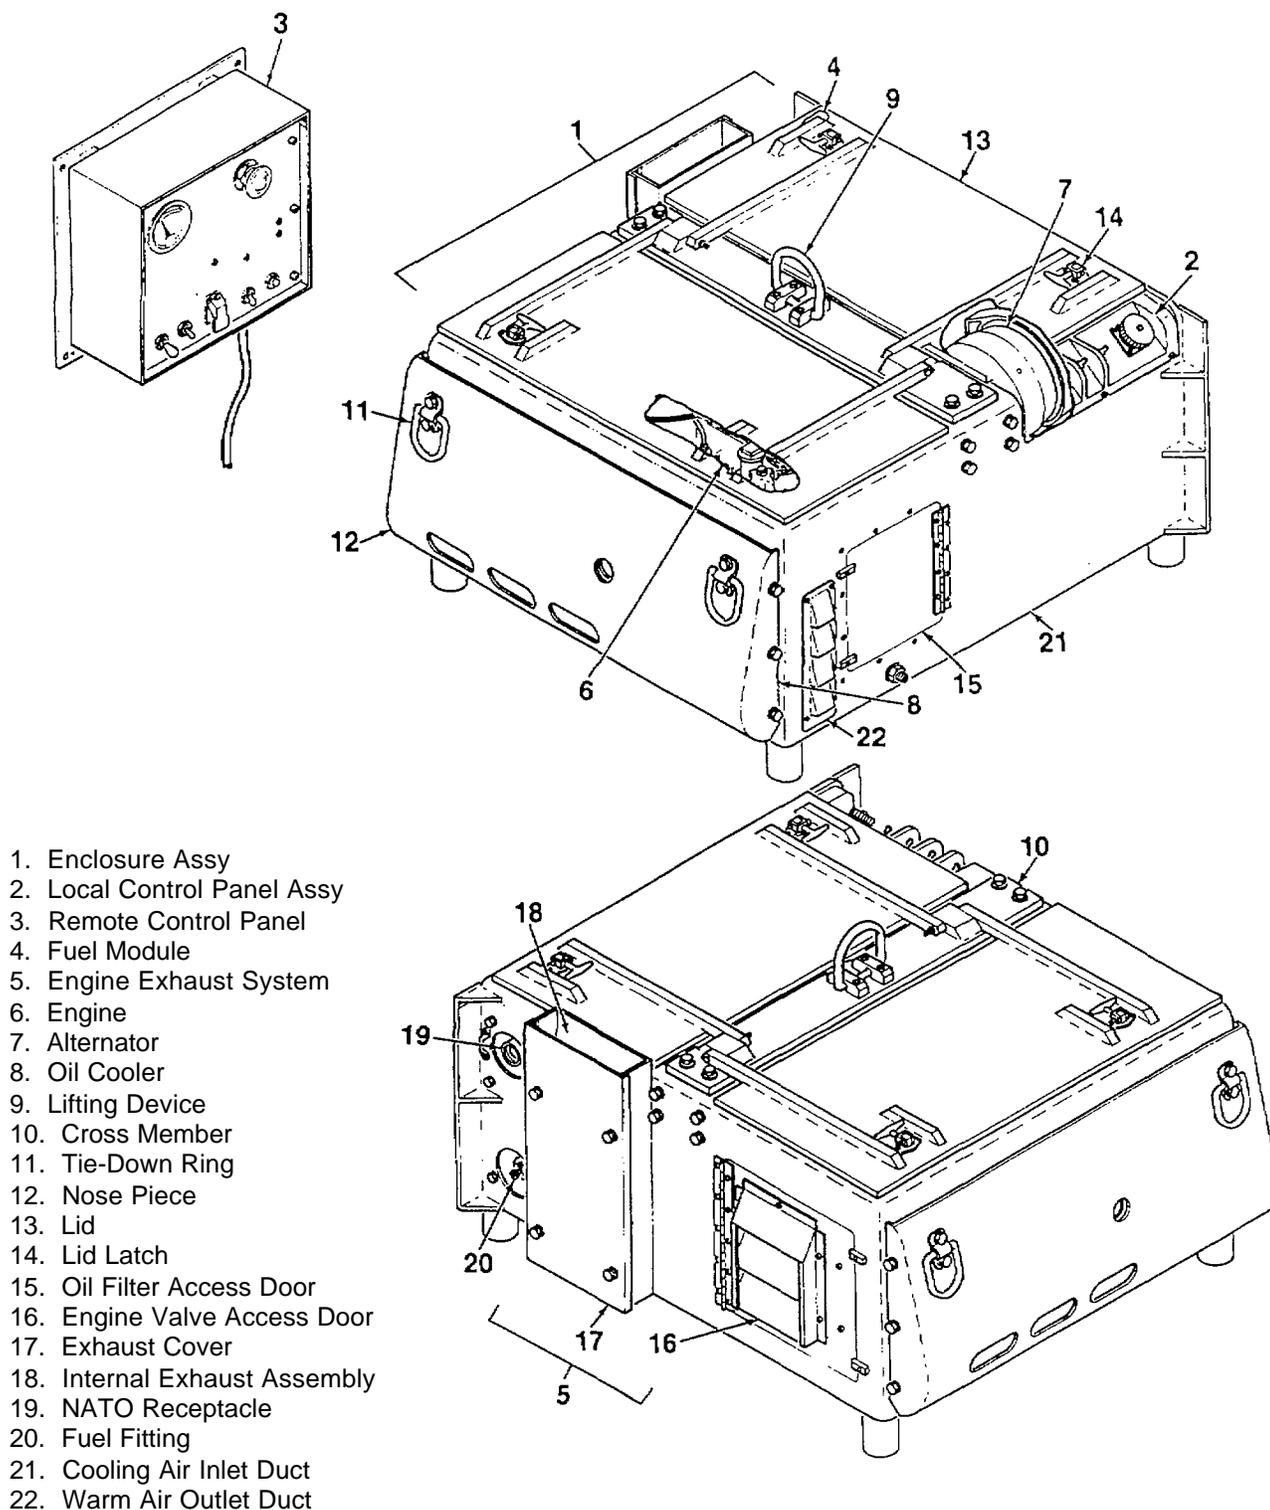
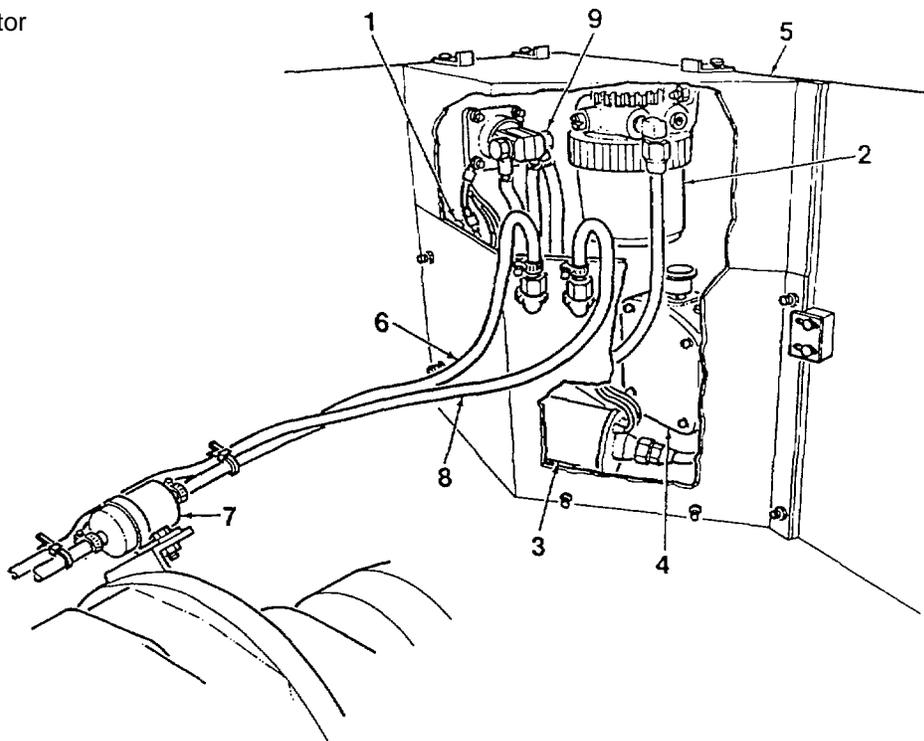

Figure 1-1. 5kW, 28VDC, Diesel Engine Driven Auxiliary Power Unit (APU)
Figure 1-2. Fuel System Components
This manual provides instructions on operation, troubleshooting, and maintenance of the 5kW, 28VDC, Diesel Engine Driven Auxiliary Power Supply (APU), MEP-952B, NSN 6115-01-452-6513. Information is provided on principles of operation, controls and indicators, preventive maintenance checks and services, lubrication, operation under both local and remote conditions, troubleshooting, and maintenance. Refer to Figure 1-1 for full view illustrations of the APU showing features pertinent to the operator.
1-10. LOCATION AND DESCRIPTION OF MAJOR COMPONENTS (FIGURE 1-1).
b. The APU consists of an aluminum enclosure assembly (1, Figure 1-1), local control panel assembly (2), remote control panel assembly (3), fuel module (4), engine exhaust and silencer system (5), single-cylinder diesel engine (6), 6 phase brushless alternator (7), engine oil cooler (8), and associated wiring harnesses, electrical connectors, and fuel hoses. Two detachable mounting brackets are secured to the front sides of the APU enclosure. Two vertical mounting brackets are welded to the rear corners of the enclosure. These brackets are used to secure the APU to the M1068 vehicle.
c. **Enclosure Assembly.** The enclosure assembly (1, Figure 1-1) supports and protects all APU components. The enclosure housing is a one-piece aluminum structure and forms the front, back, sides, and base of the enclosure assembly. A single point lifting device (9) is mounted to the top-center cross member (10). Four tie-down rings (11) are mounted on the enclosure, two on the nose piece (12) and two on the rear housing panel.
d. Two liftable lids (13) are mounted to the top of the of the enclosure assembly. Fold-down latches (14) secure the lids in place during vehicle operation. The lids allow easy access to APU components for inspection, servicing, and maintenance tasks. The lids and top-center cross member (10) may be removed as an assembly, allowing fast and easy removal/replacement of the engine and alternator. Two hinged doors (15, 16) located on the sides of the enclosure permit quick access to the engine. The engine oil filter door (15) opens to allow access to the engine oil filter, engine oil cooler, and related hoses. The engine valve access door (16) allows access to the engine rocker box and cylinder head for adjustment procedures.
e. A slanted nose piece (12) is attached to the front of the enclosure. The nose piece deflects foreign objects that may come up the front of the vehicle, protecting the APU. A hole in the nose piece allows for insertion of the engine crank handle, permitting manual start of the engine if required. The oil cooling fan is mounted to the enclosure housing front panel, behind the nose piece.
f. A metal exhaust cover (17) is mounted to the left side of the enclosure. The cover protects the exhaust silencer (18) and exhaust pipe, and prevent personnel from touching hot exhaust components. The cover is closed on the bottom to ensure that all hot exhaust air escapes upward. A NATO electrical receptacle (19) and fuel fitting (20) are accessed through recesses located to the left of the exhaust cover.
g. A cooling air inlet duct (21) is located under the enclosure housing. Two warm air outlet ducts (22) are located on the sides of the enclosure. Each outlet duct is baffled. The inside of the enclosure and underside of the access lids are covered with sound-proofing material to reduce noise.
h. **Local Control Panel Assembly.** The local control panel assembly (2, Figure 1-1) is mounted at the right rear corner of the enclosure assembly and contains all the control devices required to operate the APU. The local control panel allows the operator to start and run the APU, transfer control to the remote control panel assembly (3), and stop the APU in the local or remote operating mode.
k. **Remote Control Panel.** The remote control panel (Figure 1-1) allows for operation of the APU from inside of the vehicle. The remote control panel consists of a DC voltmeter, START / PRIME RUN / OFF switch, PREHEAT switch, BATTLE SHORT OFF switch, APU ON switch, EMERGENCY STOP push-button, a printed circuit board, and associated connectors. LED indicator lights are used to indicate the following conditions; APU ON, battle short ON, HIGH ENGINE TEMPERATURE, and LOW OIL PRESSURE. LEDs are tested using a PRESS TO TEST LAMPS switch, located on the remote panel.
l. An eight (8) foot interconnect cable connects the APU local control panel to the remote control panel. Refer to Description and Use of Operator's Controls and Indicators (Chapter 2) for detailed information on remote control panel assembly components.
m. **Fuel System and Fuel Module.** APU fuel system components are housed within a removable fuel module (Figure 1-2). The fuel module consists of an inlet fuel fitting (1), fuel filter water separator (2), electric fuel pump (3), fuel float valve assembly (4), and related hoses and fittings.
n. The module is fitted with a removable cover (5) for ease of maintenance and may be removed as a unit from the APU enclosure. The module cover is equipped with three slide latches that secure the cover during unit operation. A hole in the module cover moderates air temperature, keeping the temperature within the module cooler than the temperature within the rest of the APU enclosure.
o. Fuel for operation of the APU is supplied to the fuel module from the vehicle by way of a fuel interface hose. The APU may also be operated from an external fuel supply utilizing the same inlet fuel fitting (1). A fuel supply line (6) passes fuel from the fuel filter water separator (2), through an in-line fuel filter (7), to the engine fuel pump. A fuel return line (8) directs fuel from the engine fuel injector line to the fuel float valve assembly (4).
p. The fuel module also houses the NATO electrical receptacle (9), contactor, and related wiring and terminals that control power output to the vehicle.